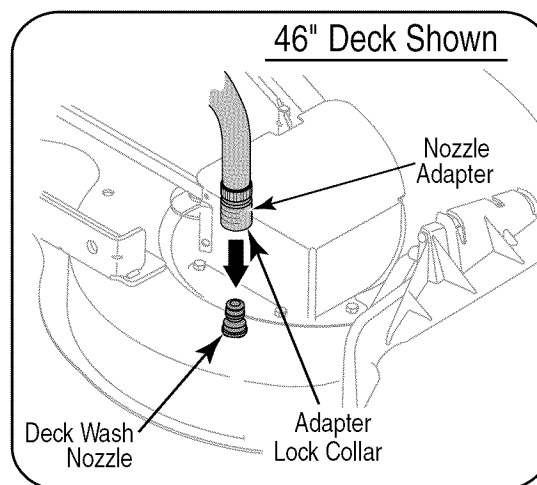

Figure 21
4. Pull back the lock collar of the nozzle adapter and push the adapter onto the deck wash nozzle at the left end of the mower deck. Release the lock collar to lock the adapter on the nozzle. See Figure 21.